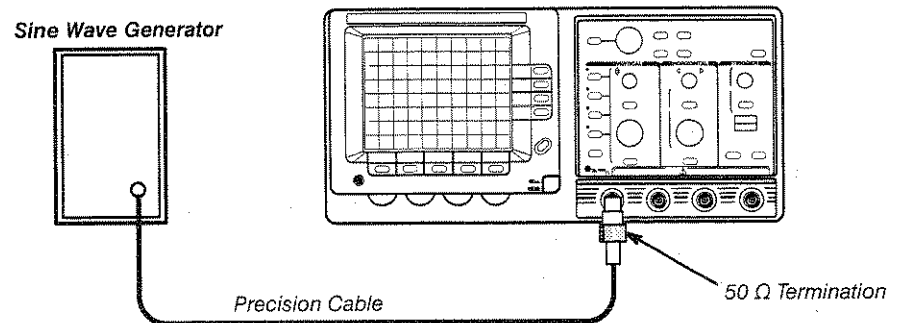

Figure 6-12: Trigger Sensitivity Test Setup (One)
2. Connect the output of the sine wave generator to the **CH 1** input as shown in Figure 6-12.